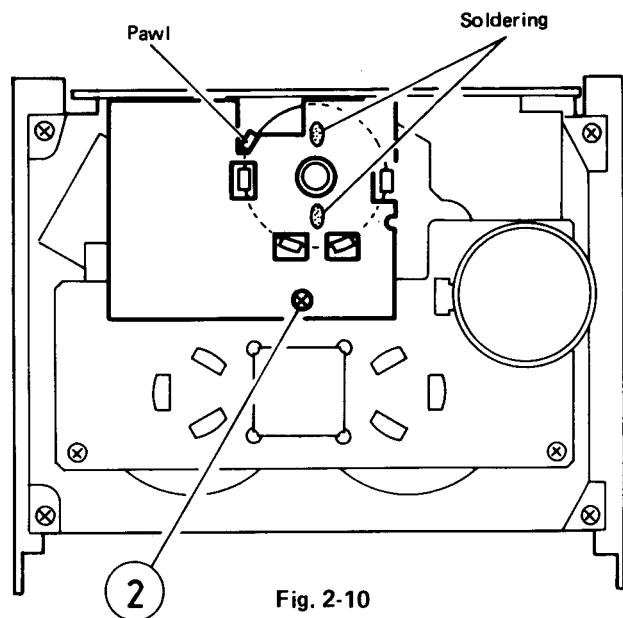
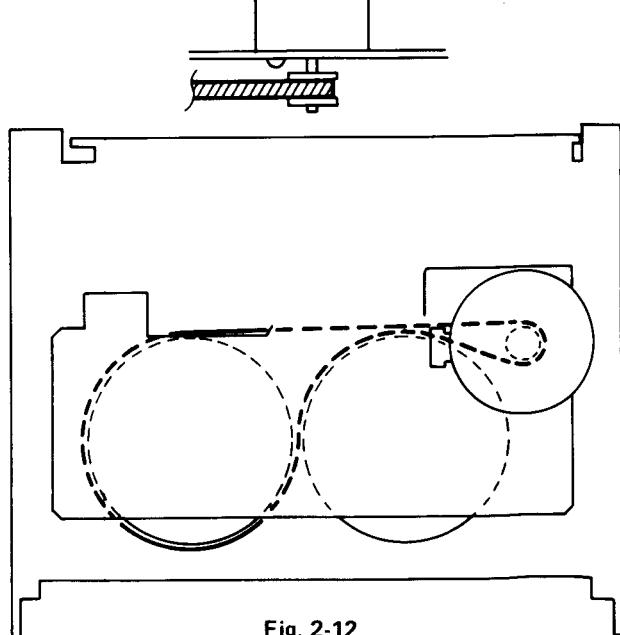

Fig. 2-10
Fig. 2-12
- 3) For reengaging the spring, refer to the figures (A) and (B).
- FM bracket/Capstan motor assembly (Figs. 2-10, 2-11)
- 2) Remove one screw ② retaining the FM bracket together.
- 3) Remove two screws ③ and disengage five pawls, and then the FM bracket and the capstan belt (mechanism A and B ) can be removed.
- 4) Remove two screws ④ retaining the capstan motor from the FM bracket.
- 5) For reengaging the capstan belt, refer to Fig. 2-12